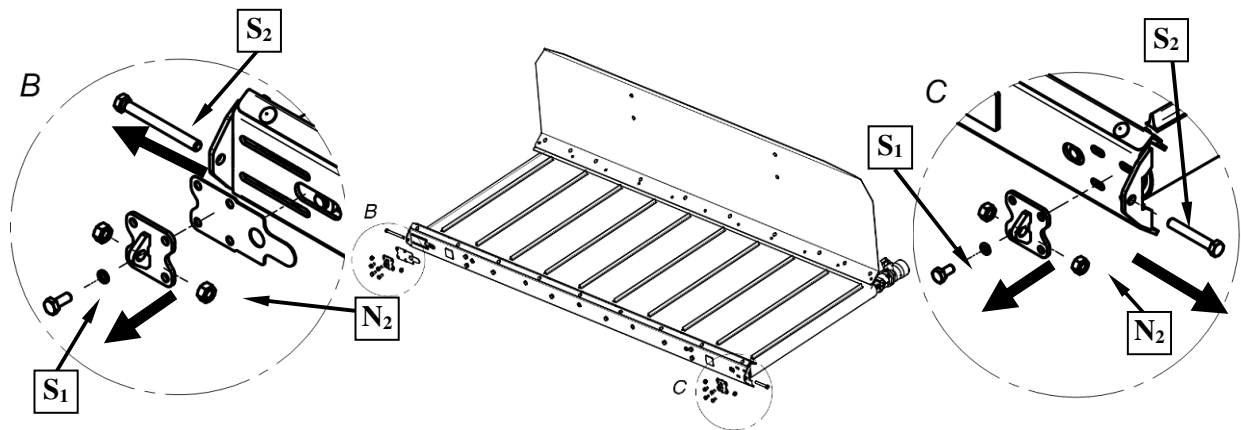

Fig. 38.
1. Loosen bolts M10 – S₁, nuts M12 – N₂ adjustment bolts M12 – S₂ of front tensioners (**Fig. 38**).